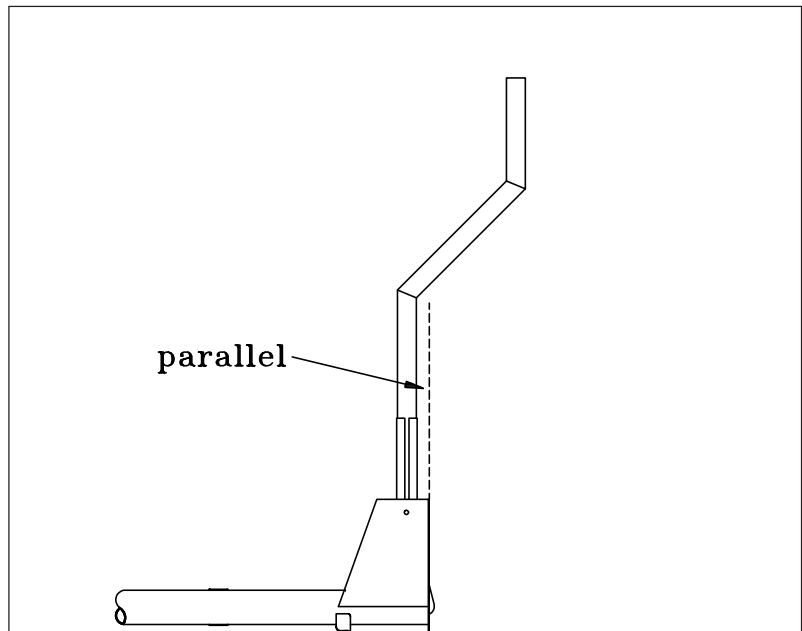

Figure 18 Neutral Position of the Rear Control Stick
- 2 Secure the rear control stick in the neutral position. (Vertical back plane of the torque tube parallel to the control stick like shown in Figure 18).